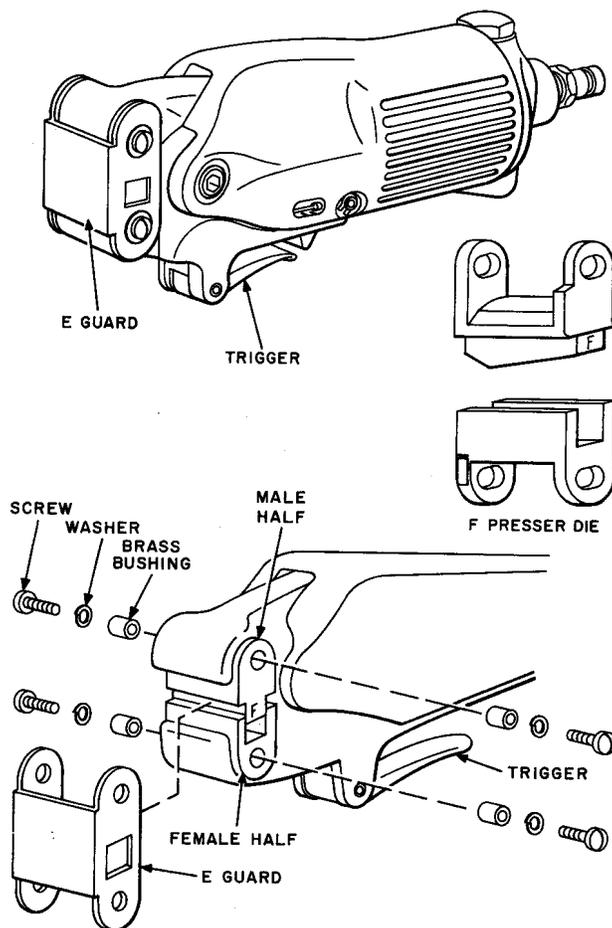

Fig. 1—C Pneumatic Presser and F Presser Die
2.01 The C Pneumatic Presser (Fig. 1) is about 10 inches long, 3-1/2 inches high, and 2-1/4